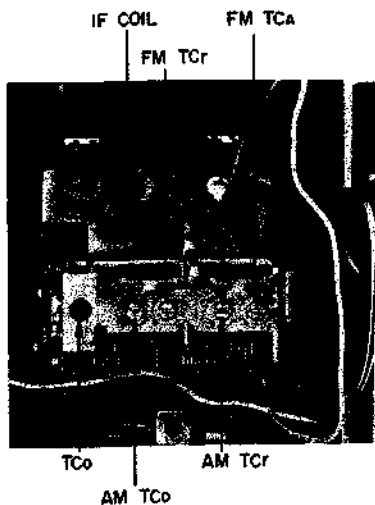

Fig. 21 Front End (AA-1135)
2. Please refer to Fig. 21 for Front End of AA-1135.